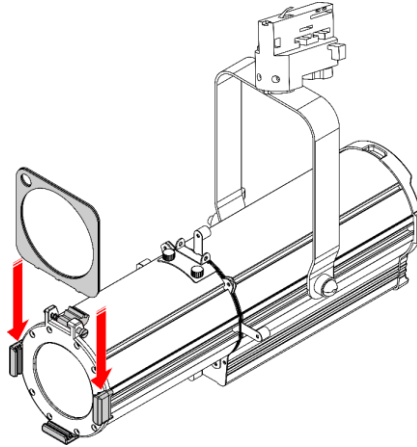

Fig. 14
- 03) Insert the color frame into the **color frame holders (07)** (see Fig. 14).